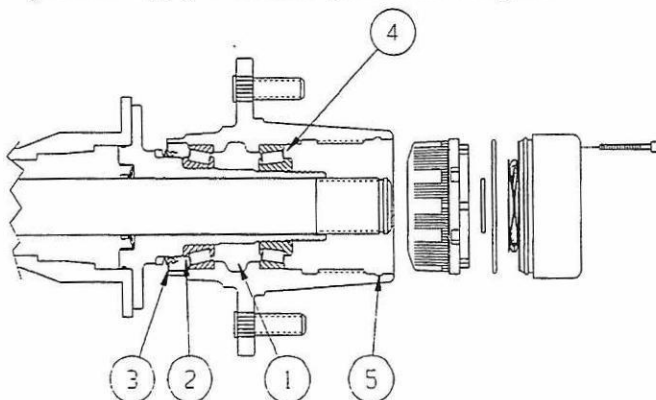

Figure 6. Bearing and seal installation.
2. Pack wheel hub inner diameter (Figure 6, Flag 1) with wheel bearing grease.
6. Apply additional grease to top of installed bearing (Figure 6, Flag 2).
7. Press large radial seal into seat in hub (Figure 6, Flag 3).
9. Install outer bearing (Figure 6, Flag 4).